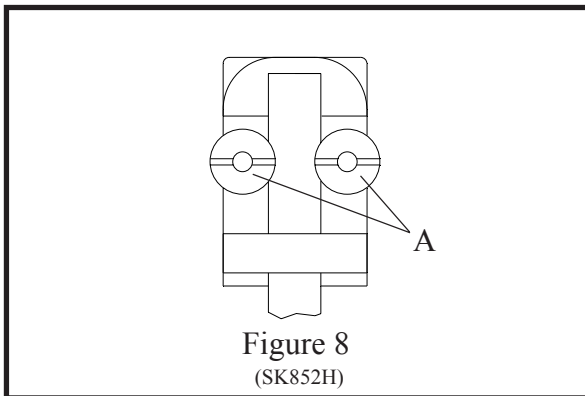

Figure 8
2. To adjust for side-to-side alignment: (Fig. 8)